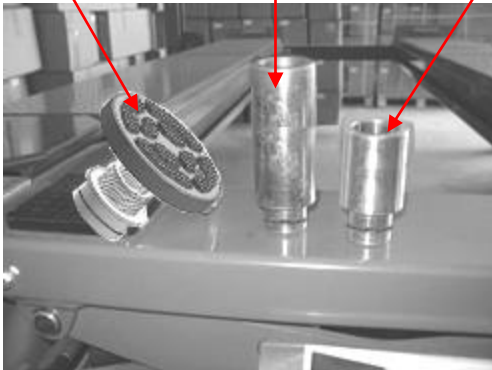
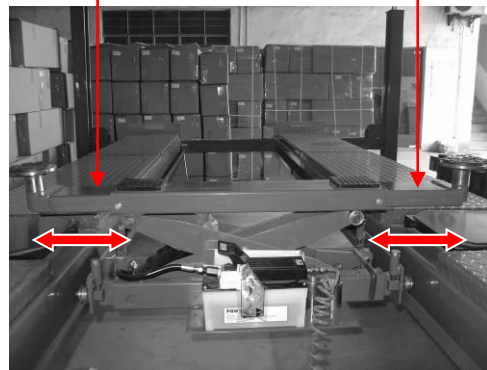
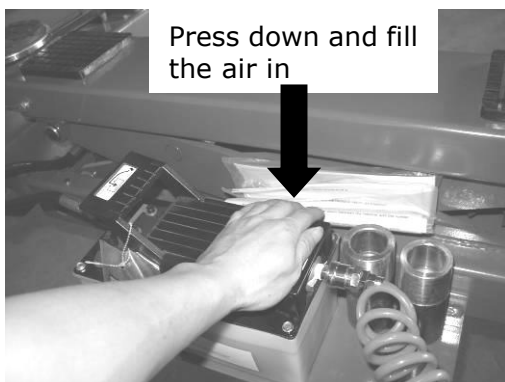
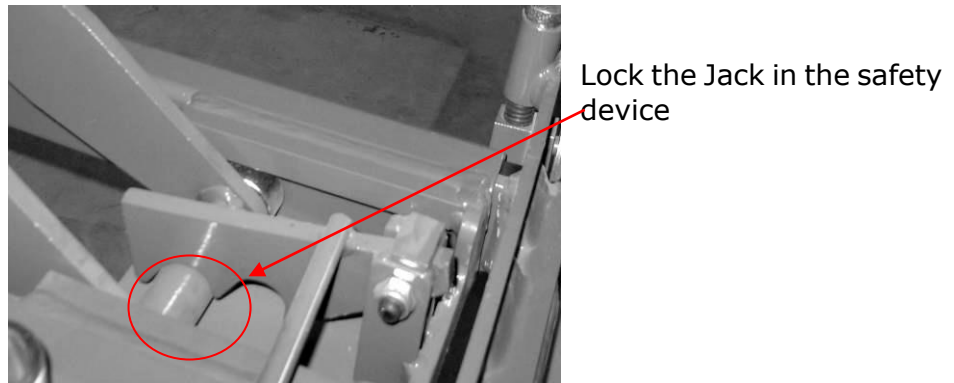

Fig.3
Fig. 4
Fig.5
Fig.6
2. Lift vehicles: choose the suitable adapters(Fig. 3); Extend the upper extension to proper length to fit the lifting point of the vehicle(Fig. 4); Fill air into the oil pump (Fig.5); Raise the Jack and lock the Jack in the safety lock(Fig. 6)